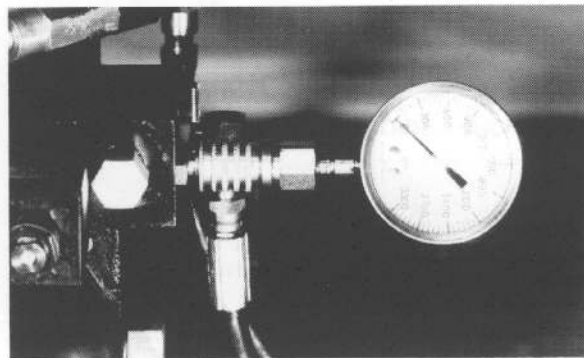

Figure 1-4
2. Using the proper fittings, install a pressure gauge as shown. See Figure 1-4.